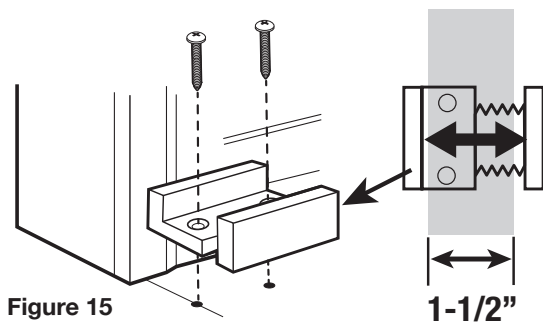

Figure 15
The Bottom Door guide (V) keeps the door from swinging outward away from the wall. To locate the proper installation position in the floor, slide the door into the closed position and mark the outside edge of the door on the floor. Now place the door into the open position and mark the inside edge of the door on the floor. Make sure your guide location is well marked. Make sure that whether the door is in the open or closed position, that the door NEVER leaves the Door guide. This is the proper location for the Door guide. Set the width of the floor guide to 1 1/2". Slide the door out of the way and place the guide on the floor in between the 2 marks. Pre-drill holes if necessary for your floor type. Using a drill and the screws provided, secure the Door guide to the floor. **See Figure 15.**